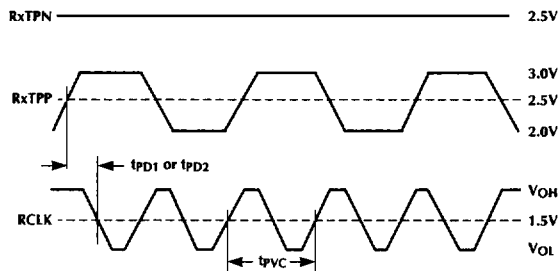

Figure 2. Phase Detector Gain Test.
**Note 10:** See Figure 2 for timing. With the circuit in phase-lock, inject  $I1 = +5\mu A$  and measure the propagation delay  $t_{PD1}$  between an RxTPP rising edge and the corresponding RxCLK falling edge. Make a second delay measurement  $t_{PD2}$  while injecting  $I2 = -5\mu A$ . Phase detector gain is given by  $K_d = (I2 - I1) / (t_{PD1} - t_{PD2})$ .